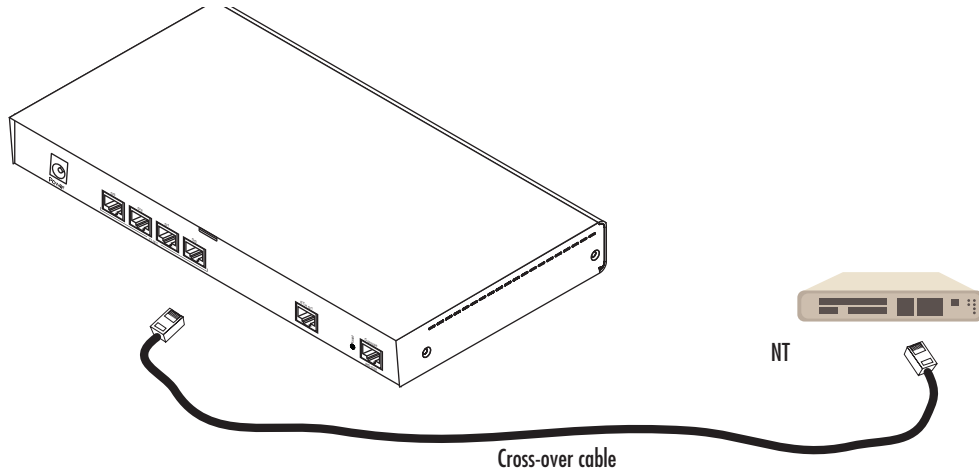

Figure 12. Connecting a T1 PRI port to an NT device
The T1 PRI is usually connected to a PBX or switch—local exchange (LE). Type and pin outs of these devices vary depending on the manufacturer. In most cases, a straight-through RJ-45 to RJ-45 can be used to connect the PRI with a PBX. A cross-over cable is required to connect to an NT device, as illustrated in figure 12 on page 48.